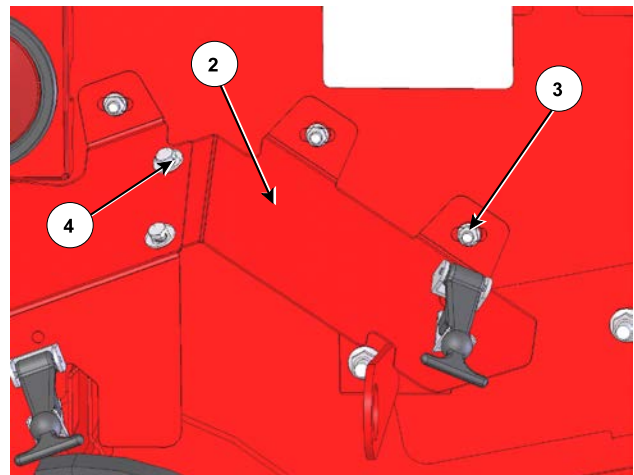

Figure 32: Install Upper Right Shield Support
27. Install the upper right shield support, see *Figure 32*.
- Place the shield support (2) onto the rear tub wall and under the left shield.
- Fasten to the tub wall with 2 of 3/8" x 1" carriage bolts (3) and flange locknuts.
- Fasten to the left shield with 2 of 3/8" x 3/4" hex bolts, washers and flange locknuts (4).